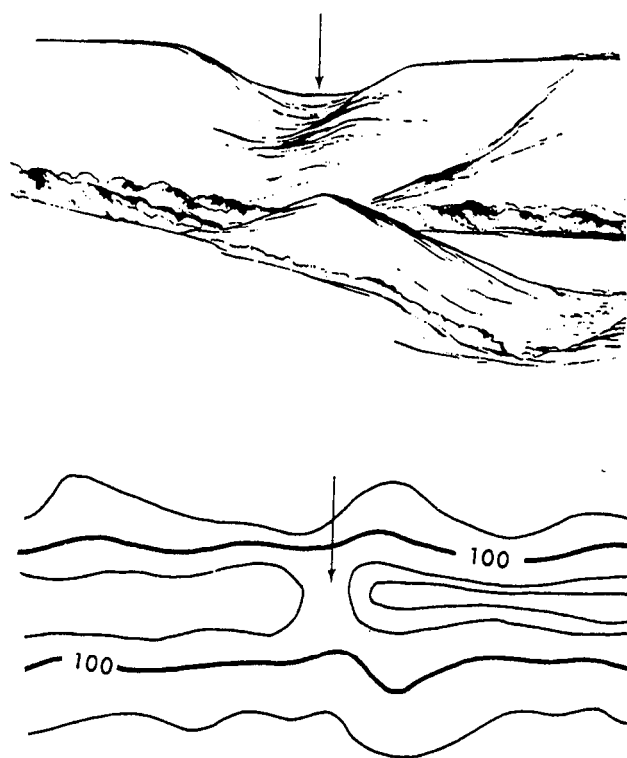

Figure 5-14.—Saddle.
6. **SADDLE.** A saddle is a dip or low point along the crest of a ridge. A saddle is not necessarily the lower ground between two hilltops; it may be simply a dip or break along an otherwise level ridge crest (fig. 5-14).